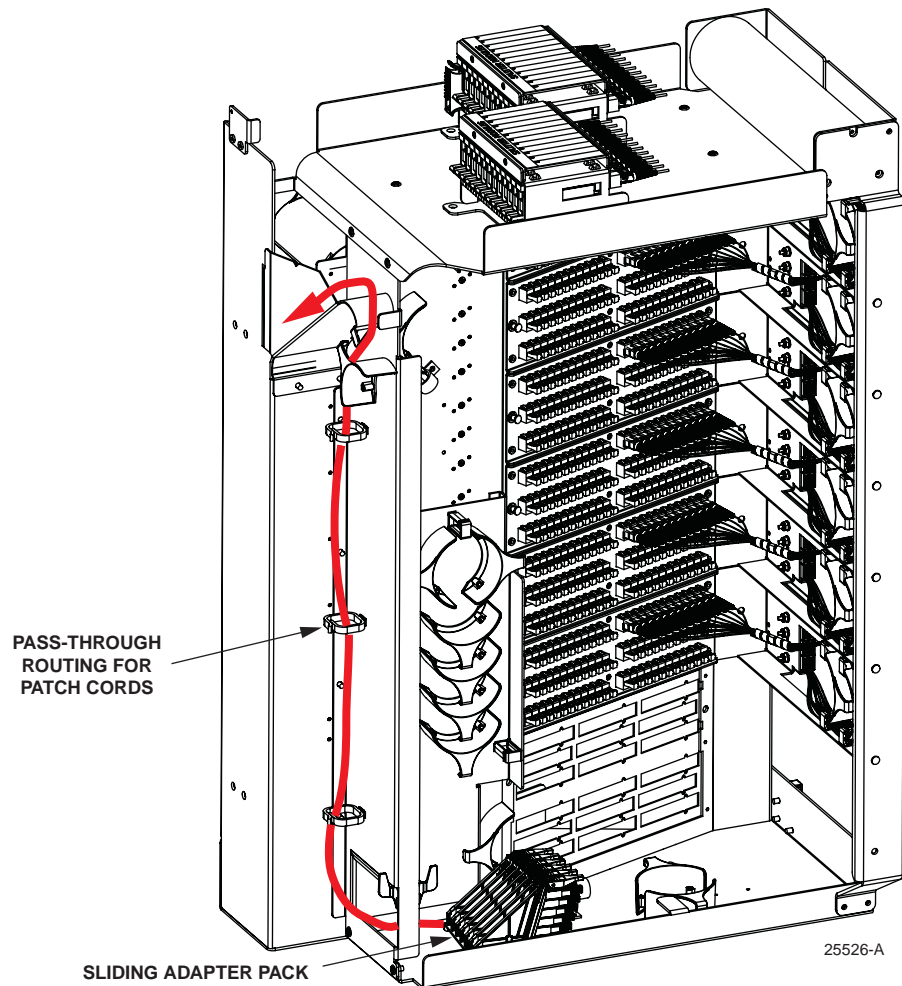

Figure 29. Routing Pass-Through Patch Cord From Sliding Adapter Pack
8. Route the pass-through patch cord to the front side of the swing-out assembly as shown in Figure 29.